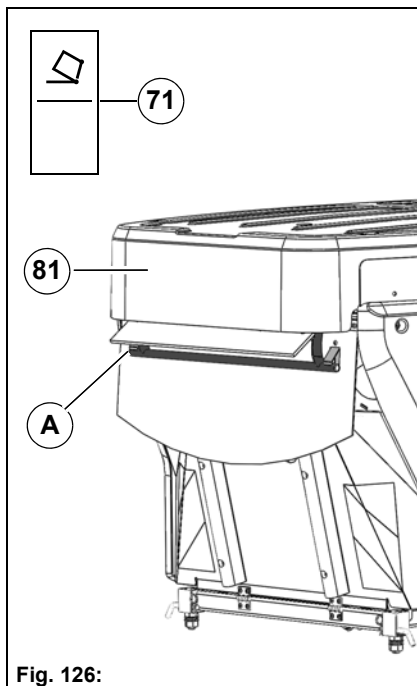

Fig. 126:
3. Before emptying the dirt hopper **Fig. 126-81** open the lock **Fig. 126-A** of the lid.